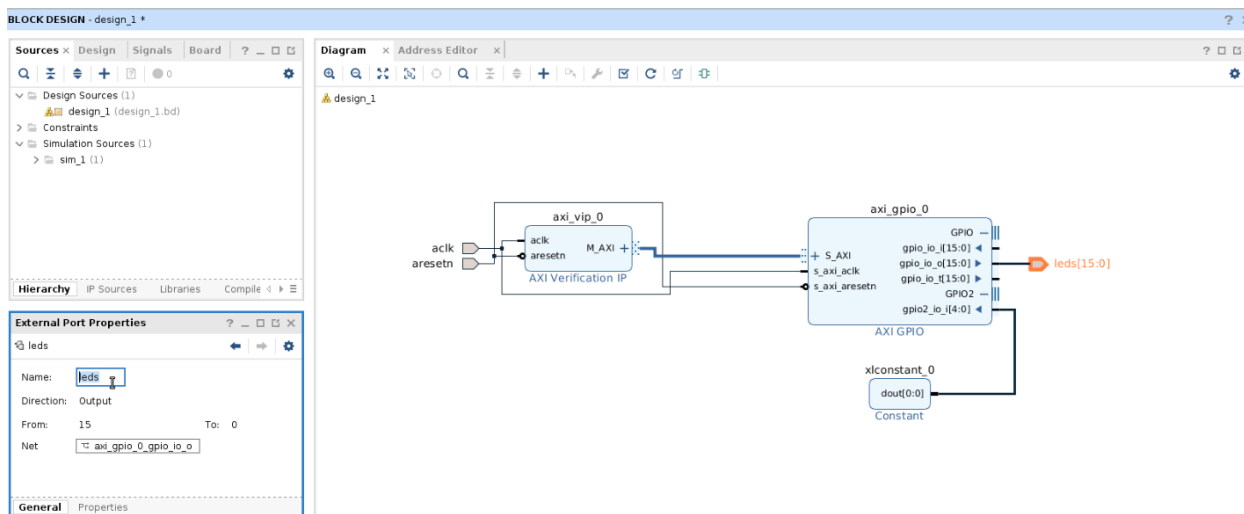

Figure 1: Block design.
3. Add and wire the **AXI Verification IP**, **AXI GPIO**, and **Constant** IPs to the diagram as shown in Figure 1 below. Make sure that the port names match the figure.